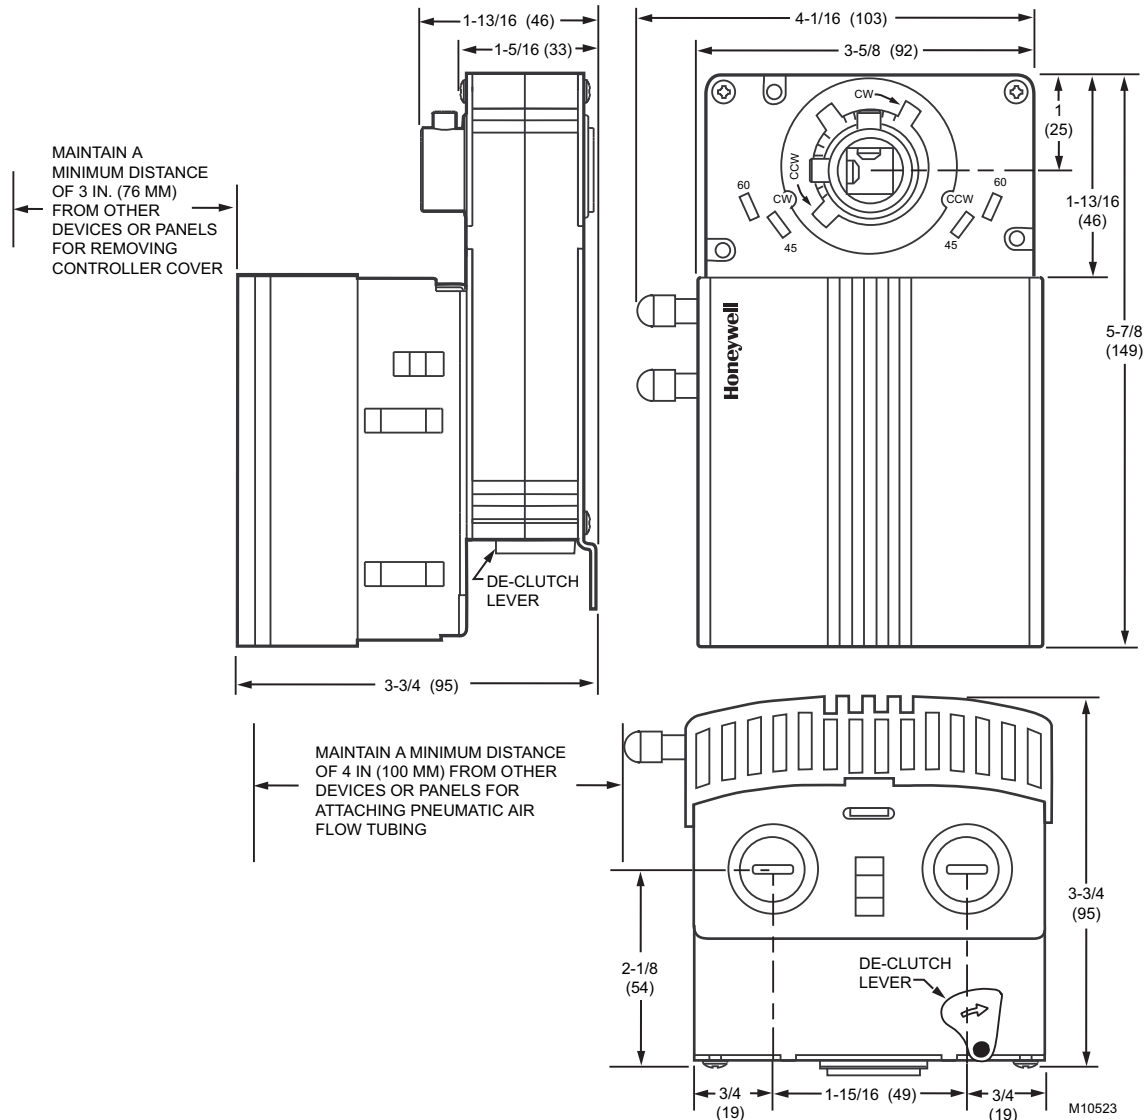

Fig. 2. W7751H mounting dimensions in in. (mm).
The ML6174 Direct-Coupled Actuator with De-clutch mechanism (see Fig. 2 for location) allows the installer to manually open or close the VAV box damper connected to the W7751H without power or software tool to command it.
Horizontally mount the W7751H on the damper shaft and allow clearance for wiring, servicing and module removal. Avoid mounting the W7751H in areas where acid fumes or other deteriorating vapors can attack the metal parts of the actuator, or in areas where escaping gas or other explosive vapors are present. See Fig. 2 for mounting dimensions.
The controller enclosure on the W7751H is constructed of a sheet metal housing and a plastic snap-on cover. Controller wiring on the W7751H is terminated to screw terminal blocks located under the snap-on cover. See Wiring section. The sheet metal housing has two 1/2 inch (13 mm) knockouts (see Fig. 2) compatible with 1/2 inch (13 mm) or 3/4 inch (19 mm) conduit.
*It is advisable to leave the dampers in an open position after W7751H installation to avoid the possibility of overpressurizing the ductwork on fan startup. Use the De-clutch lever (see Fig. 2 for De-clutch lever location) to open the box damper on W7751H controllers that are powered down, to prevent overpressurization in the ductwork on fan startup. To use the De-clutch lever, press and hold the lever in the direction of the arrow (this disengages the motor). Turn the damper shaft until the damper is open and release the lever. When power is restored to the W7751H controller, the controller synchronizes the damper actuator so that the damper is in the correct position upon startup.*